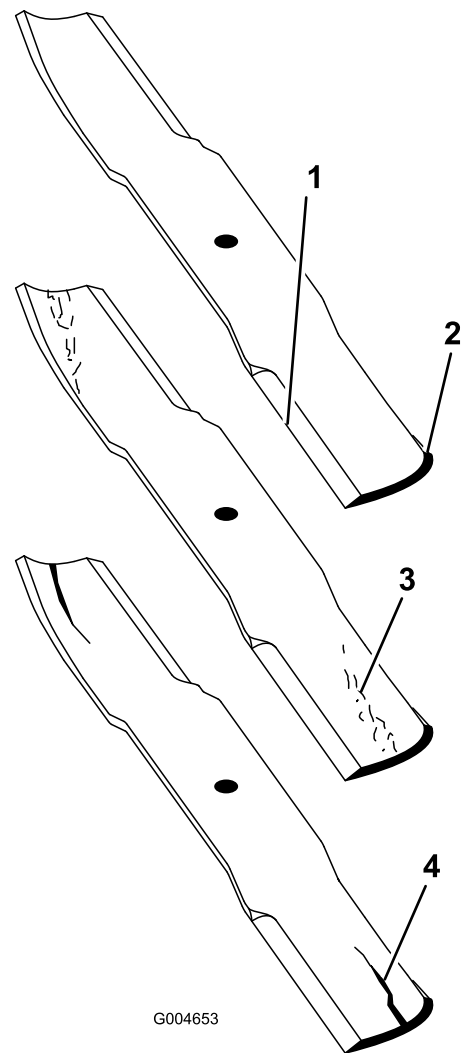

Figure 103
2. Examine the cutting ends of the blade carefully, especially where the flat and curved parts of the blade meet (Figure 103).
Note: Because sand and abrasive material can wear away the metal that connects the flat and curved parts of the blade, check the blade before using the mower. If wear is noticed (Figure 103), replace the blade.